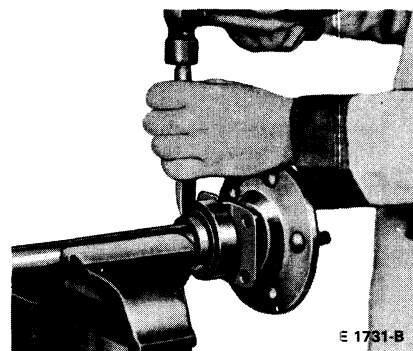

FIG. 2 Removing Rear Wheel Bearing Retainer Ring
1. Loosen the inner retainer ring by nicking it deeply with a cold chisel in several places (Fig. 2). It will then slide off easily.